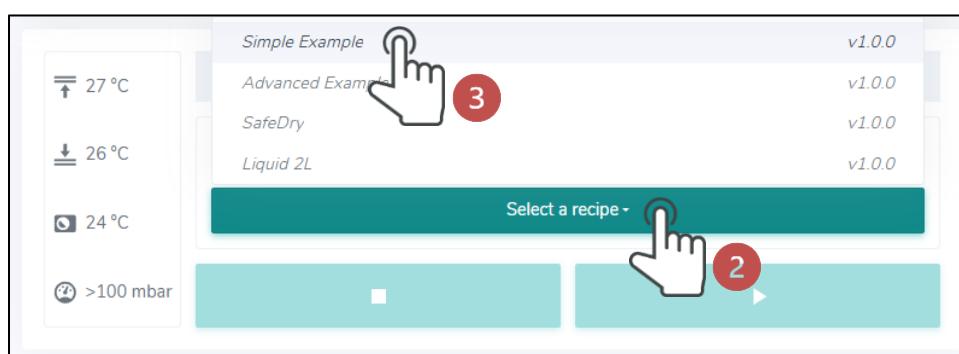

Figure 45
2. Then, tap “Select a recipe” to choose one of the existing recipes from the list (Figure 45).